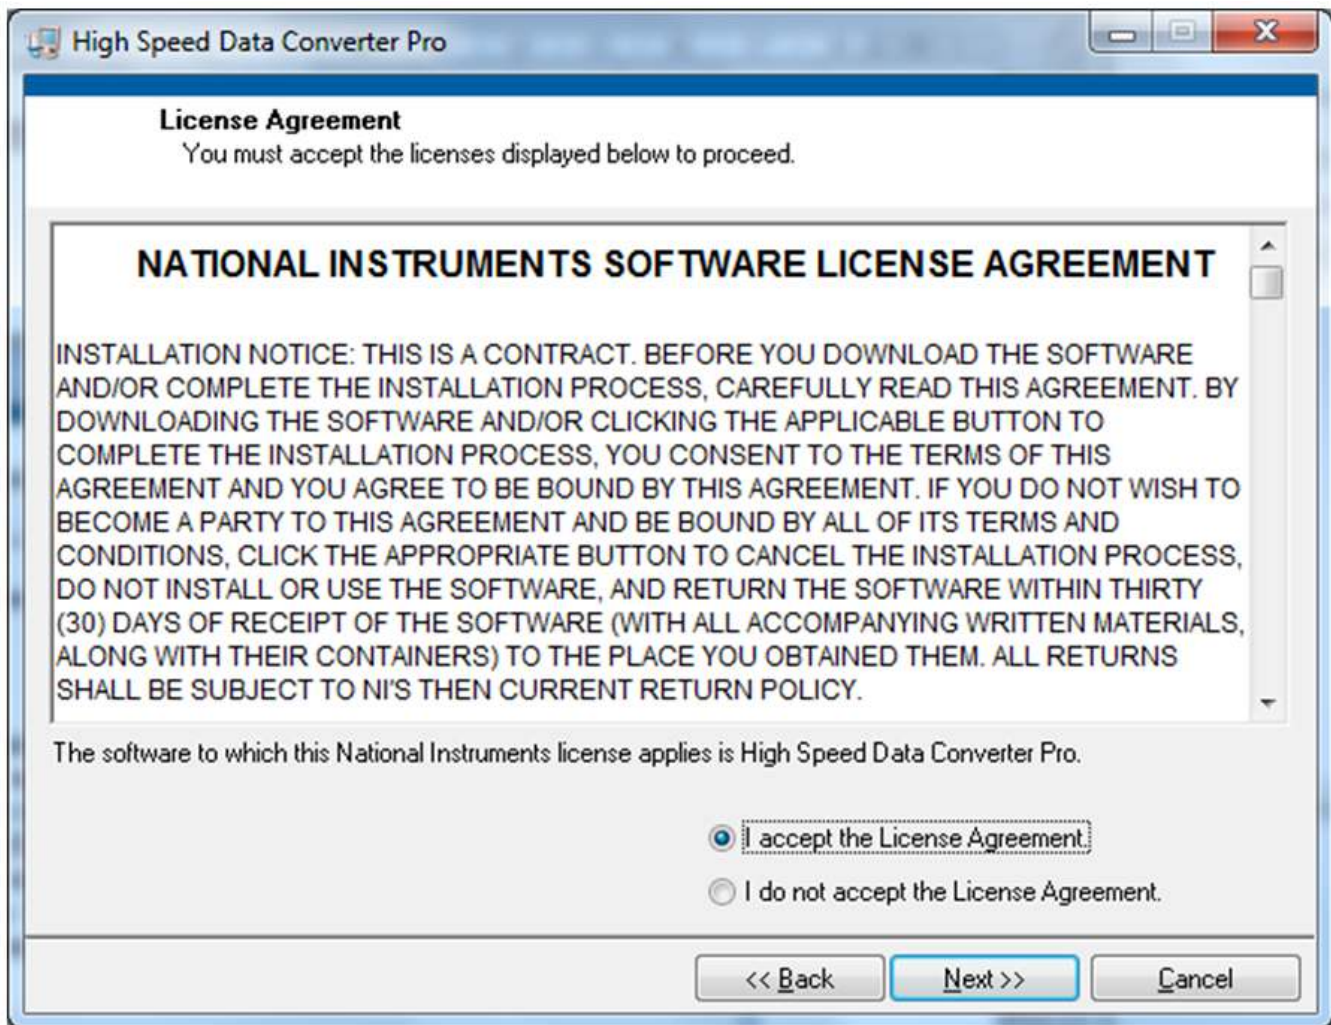

Figure 24. HSDCPro Install (NI License Agreement)
- Read the License Agreement from National Instruments and select *I accept the License Agreement* and press the *Next* button as shown in Figure 24.